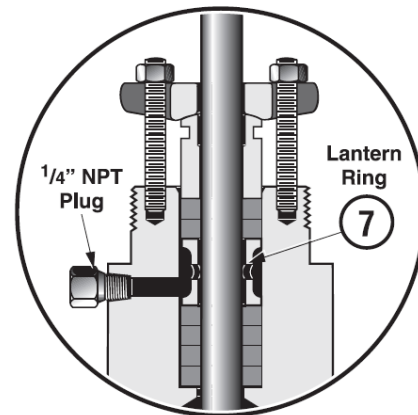

Figure 2: Lubricator Connection (Optional)
Note: On valves equipped with an optional lubricator connection, refer to Figure 2 for correct amount of rings to place under the lantern ring (17).
- E. Replace packing follower (12) and packing flange (13).
F. Replace and tighten packing stud nuts (15).
- L. If a leak detection connection was installed, connect it on the lateral NPT port in the bonnet. If not, insure that the 1/4" NPT plug remained in place (Figure 2).